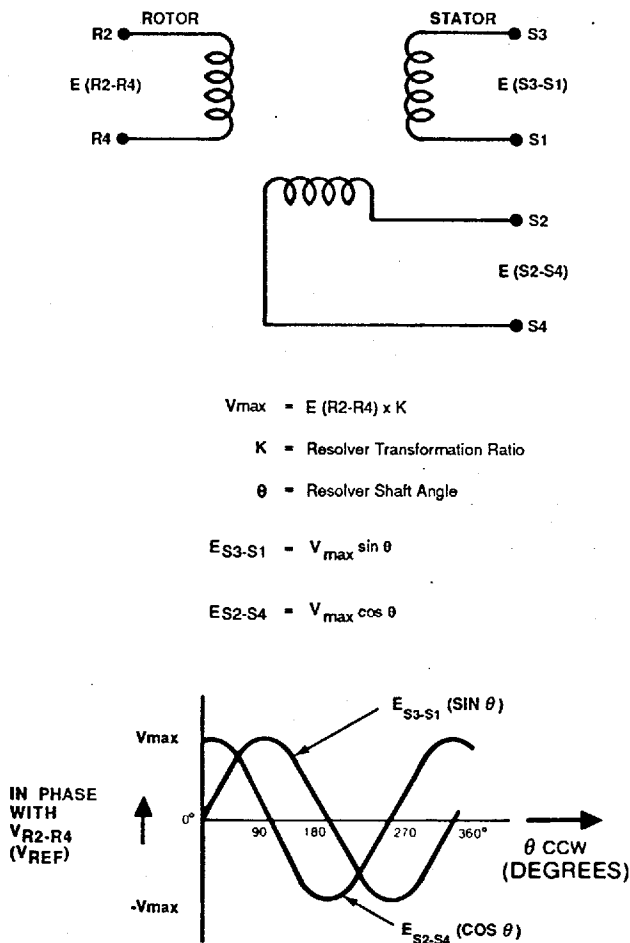
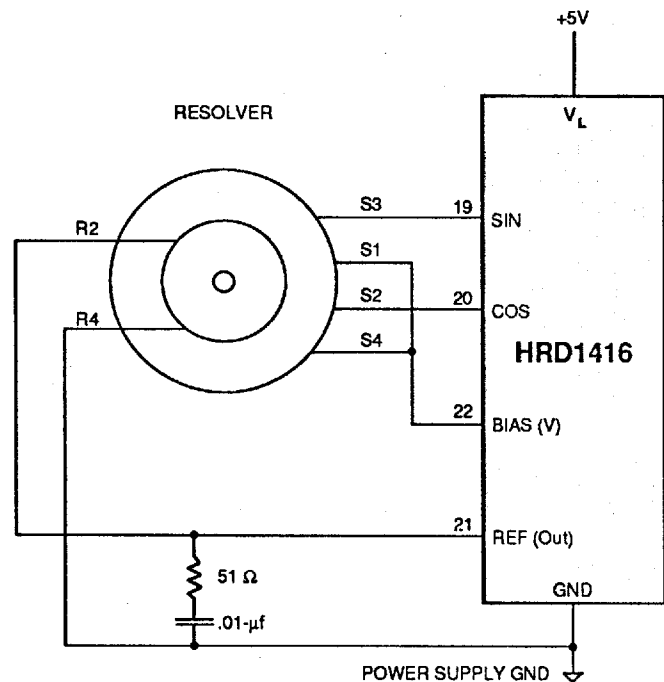

FIGURE 2 Resolver Conventions
FIGURE 3 Resolver Connections
Connections of resolver to the HRD1416 is shown in Figure 3. Standard resolver "conventions" as applicable are shown in Figure 2. Resolvers normally contain a "rotor" winding (reference input) and two "signal" windings (sin and cos outputs). The Sin (S3-S1) and Cos (S2-S4) resolver outputs are signals which are proportional to the "product" of the "sin", "cos" (respectively) of shaft angle θ and the reference voltage (R2, R4 or RH, RL), multiplied by the resolver transformation ratio (K). The reference input to the resolver (carrier signal) is essentially modulated by the shaft angle, producing "modulated" sin and cos outputs. The waveforms in Figure 2 represent the "demodulated" sin and cos outputs of the resolver, which essentially shows the amplitude relationship (in phase or out of phase) of the sin and cos outputs with respect to the reference input.
Resolvers are typically connected as shown in Figure 3. The "bias" (V) connection at Pin 22 serves as the "signal low" or "return" for the Sin and Cos resolver signals. Bias (V) is an internally generated "analog gnd" with a nominal output voltage of 2.15 V-dc. The sin and cos inputs are high impedance, voltage follower, DC coupled inputs. The nominal Sin, Cos input voltage level is 0.5 V-rms $\pm 10\%$. The reference (REF) output is an A.C. coupled output (4.7uf series blocking capacitor) with an output drive of 10 mA-rms. The nominal output voltage level is either 0.5 volt or 1.0 V-rms, depending
If the resolver is going to be located away from the converter (more than a few feet), it is suggested to use a shielded conductor for both Sin and Cos signals with the shield terminated to power supply GND. The 1416 Reference output (pin 21) has short circuit limiting (30 mA typical) and can drive a maximum capacitive load of 10,000 pf. As a general practice, decoupling capacitors should be used on the power supply (+5V) near the 1416 converter. As a minimum, a 1- μ f tantalum in parallel with a 0.01- μ f ceramic capacitor is recommended. To improve the REF (Out) stability when driving reactive loads (any resolver), a series RC (51 ohm in series with .01- μ f) should be connected between REF (Out) and GND, as shown in Figure 3.